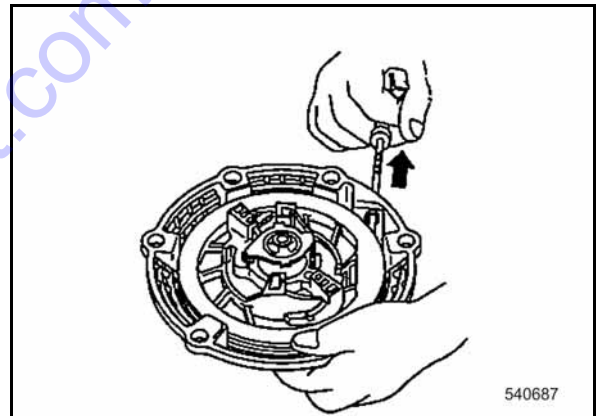

Fig. 69
- Pull the starter rope completely out by the starter handle (Fig. 69).